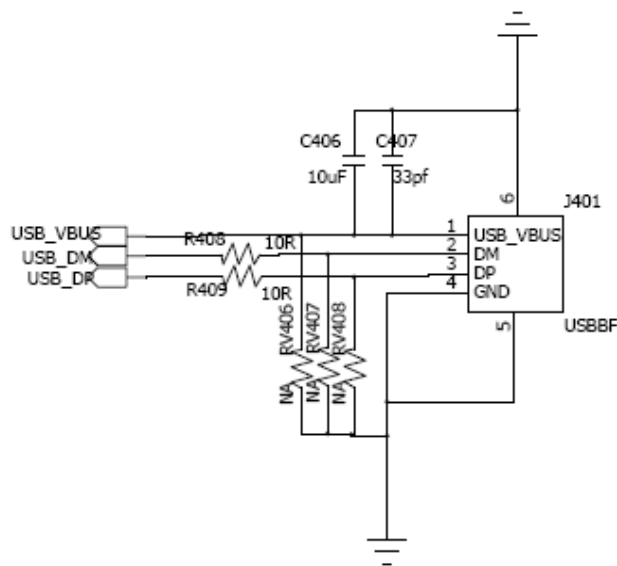

Figure 2-6 The reference circuit of USB interface
The reference circuit of USB interface is shown in Figure 2-6 below.
- 2) To reduce the reflection caused by the high frequency alternating signal in the transmission, it is recommended to add a resistor with value below 10Ω to the DM and DP in USB interface to ensure correct transmission for USB data. Just like the resistors R408 and R409 in Figure 2-6.